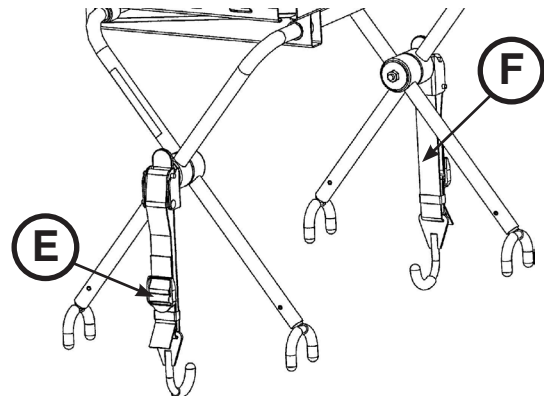

Figure 41
Note: If the defibrillator platform is not securely attached to the cot when both latch hooks are engaged or if you cannot secure the latch hooks around the cot litter frame, unlatch the tab (E), loosen or tighten the strap (F) until the proper adjustment is achieved, and then push the tab (E) up until it locks into place with an audible click (Figure 41).